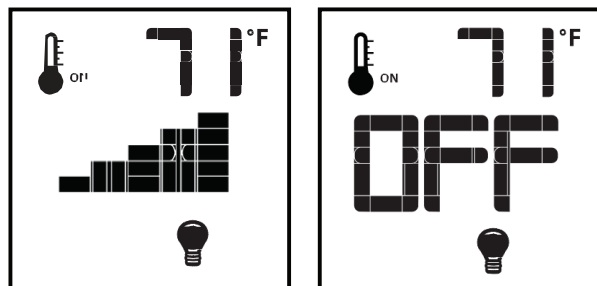

Figure 75: Dimmer light control.
To activate this function use the Mode Key (Figure 62) to index to the light bulb icon (Figure 75). The intensity of the output can be adjusted through six (6) levels. Use the Up/Down Arrow Keys to adjust the output level. A single “beep” will confirm reception of the command.